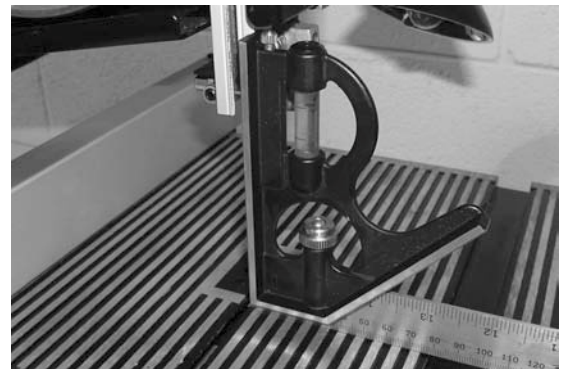

FIGURE 9
- 3) Place a small square on the table against the flat side of the blade or as close as possible as shown in Fig.9.